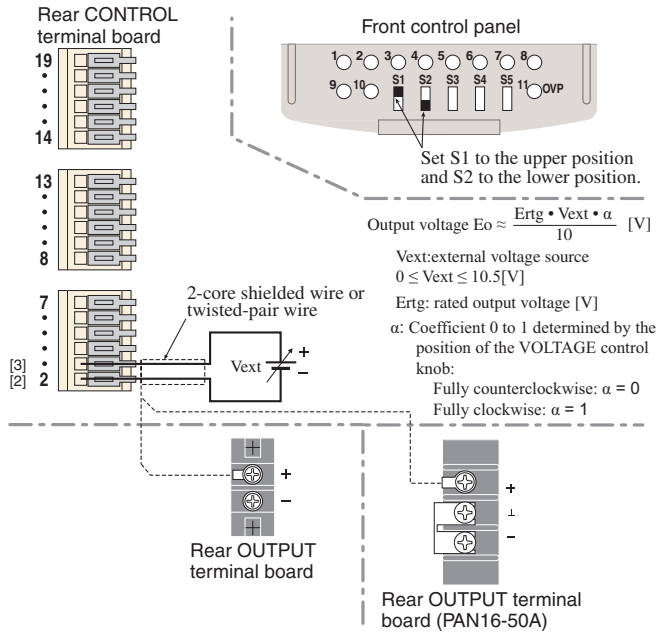

Fig.4-11 Connection and setup for output voltage control using external voltage
- For output voltage control with an external voltage, you can use the VOLTAGE control knob to adjust the ratio of the output voltage to the input voltage from the external voltage source (Vext). (See Fig.4-11.)
4. Set the control switches S1 and S2 to the position shown in Fig.4-11.
5. Connect the voltage source across the control terminals [2] and [3] as shown in Fig.4-11.